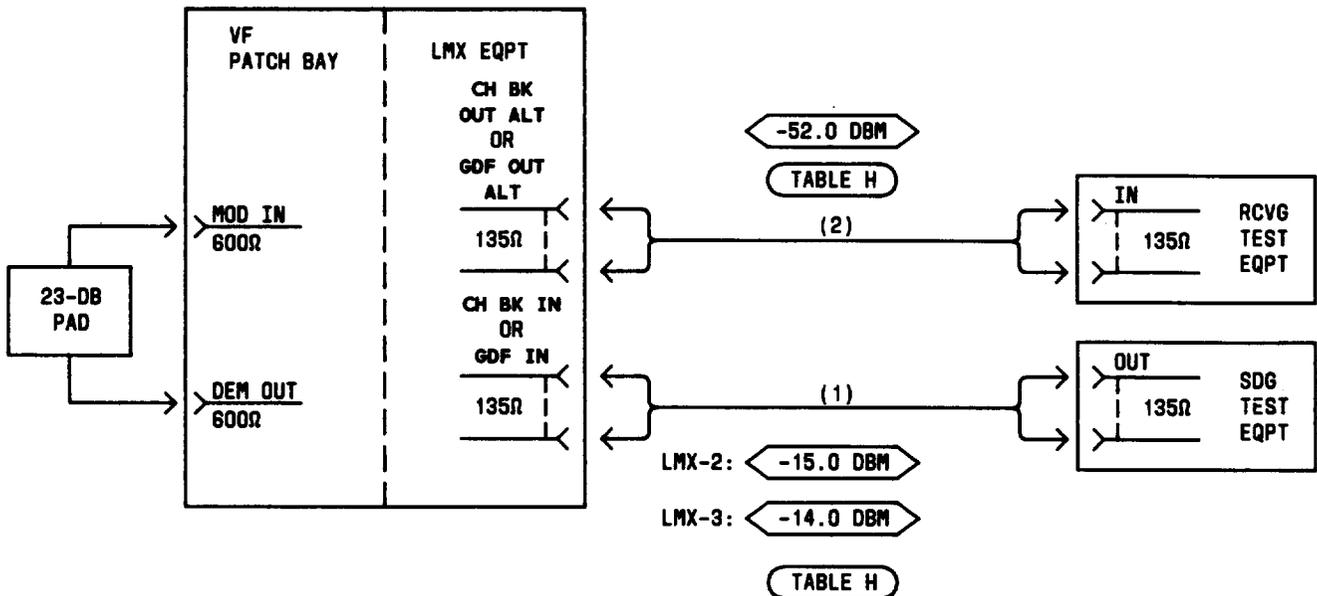

Fig. 12—Patching Diagram—Preparation
- 3 For the VF channel under test, connect the DEM OUT jack to the MOD IN jack, via a 6P10() cord (Fig. 12).
- 4 At the LMX equipment, connect the STE to the CH BK IN (LMX-2) or GDF IN (LMX-3) jack [patch (1), Fig. 12].
- 5 At the LMX equipment, connect the RTE to the CH BK OUT ALT (LMX-2) or GDF OUT ALT (LMX-3) jack [patch (2), Fig. 12].